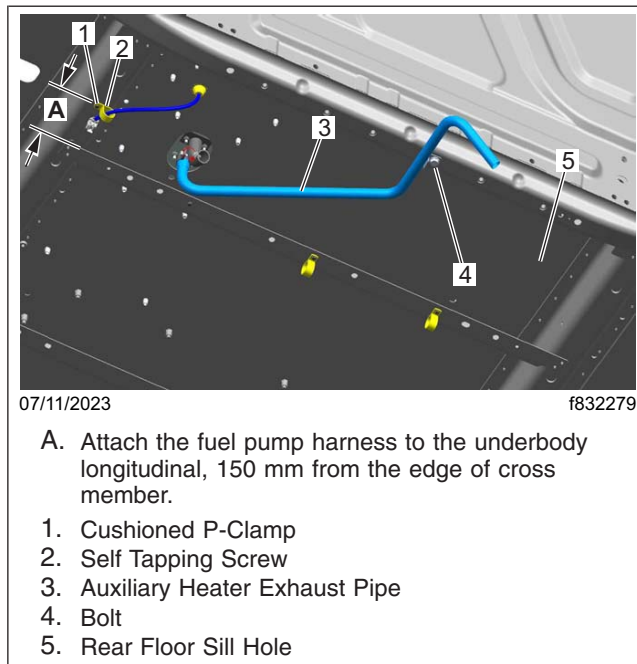

Fig. 16, Auxiliary Heater Exhaust Pipe Installation
20. Seat the exhaust pipe tabs flush to the rear floor sill, and attach at existing holes using the bolt, as shown in Fig. 16.
23. Route and secure the fuel pump harness and the exhaust pipe as shown in Fig. 16.